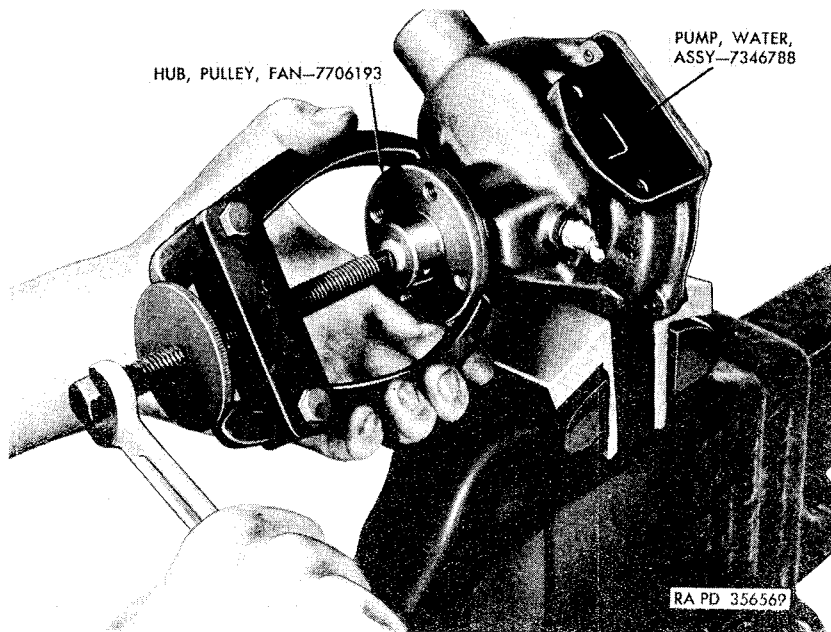

Figure 77. Removing fan pulley hub.
- (1) Remove fan pulley hub (fig. 77) after driving out the  $\frac{5}{32}$  x  $1\frac{1}{8}$  pin. Install puller 41-P-2912 on fan hub and remove hub.
- (2) Remove the water pump cover plate attaching screws and cover plate.